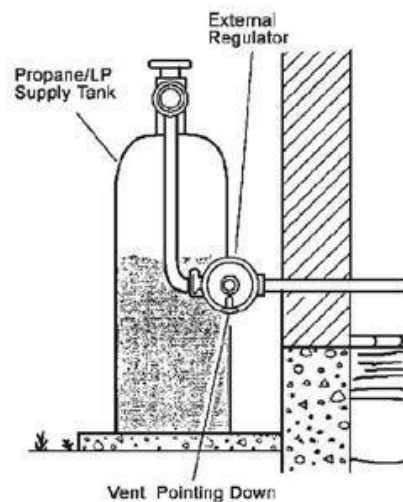

Figure 6 - External Regulator With Vent Pointing Down
**⚠ WARNING:** Never connect heater to private (non-utility) gas wells. This gas is commonly known as wellhead gas. The installer must supply an external regulator. The external regulator will reduce incoming gas pressure. You must reduce incoming gas pressure to between 11 and 14 inches of water column for propane and between 5 and 10.5 inches of water column for natural gas. If you do not reduce incoming gas pressure, heater regulator damage could occur. Install external regulator with the vent pointing down as shown in Figure 6. Pointing the vent down protects it from freezing rain or sleet.
**⚠ CAUTION:** Use pipe joint sealant that is resistant to gas (PROPANE or NG). We recommend that you install a sediment trap in a supply line as shown in Figure 6. Locate sediment trap where it is within reach for cleaning and not likely to freeze. Install in the piping system between fuel supply and heater. A sediment trap traps moisture and contaminants. This keeps them from going into heater controls. If sediment trap is not installed or is installed incorrectly, heater may not run properly.